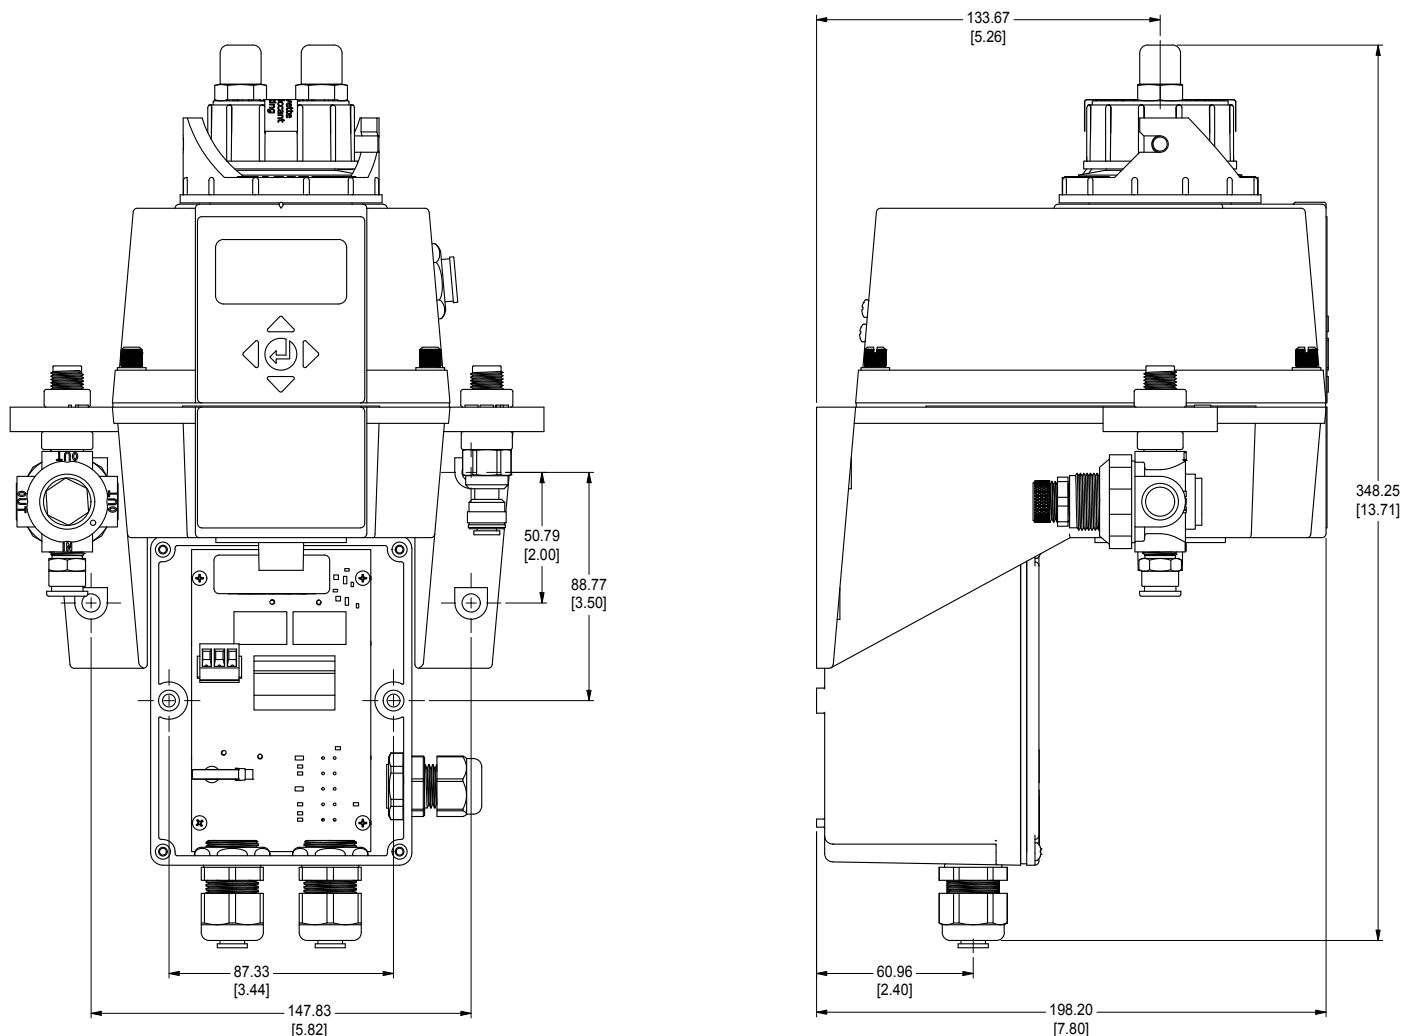

Figure 3: Mounting Dimensions of the Instrument
2. The overall mounting dimensions of the MTOL+ are shown in Figure 3, below. Measure to confirm that the mounting location has sufficient space and that there is at least 20 cm (8 in) free area above the instrument when mounted. This will ensure enough room for calibration and cuvette maintenance.